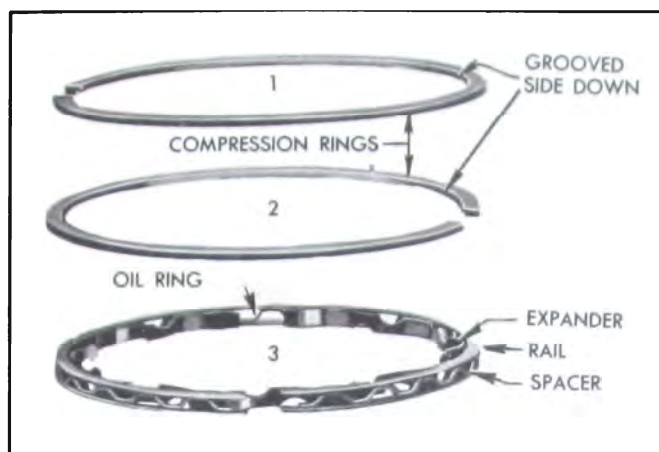

Figure 2-61—V-6 Piston Rings
9. Install V-6 piston rings as shown in Figure 2-61. Position expander ends over piston pin. Install oil ring rail spacer, and oil ring rails. Position gaps in rails "up" on same side of piston as oil spurt hole in connecting rod. Install compression rings in upper two grooves. If a single chrome plated compression ring is used, the chrome ring must be installed in the top groove.